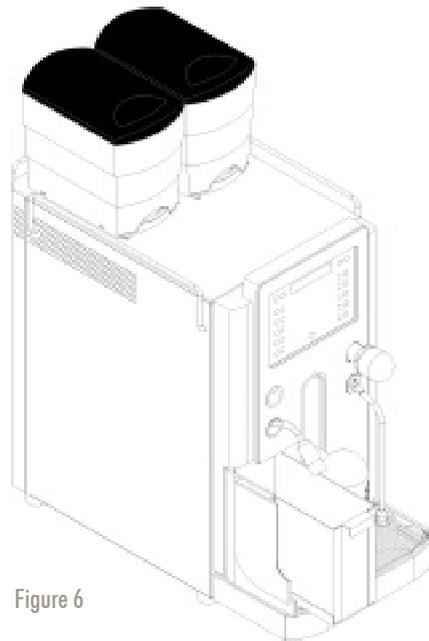

Figure 6
1. Emptying the coffee grounds drawer (Fig. 6).